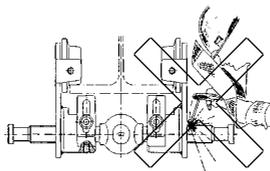

Fig. 2
- Welding on the trolley is strictly forbidden (Fig. 2).